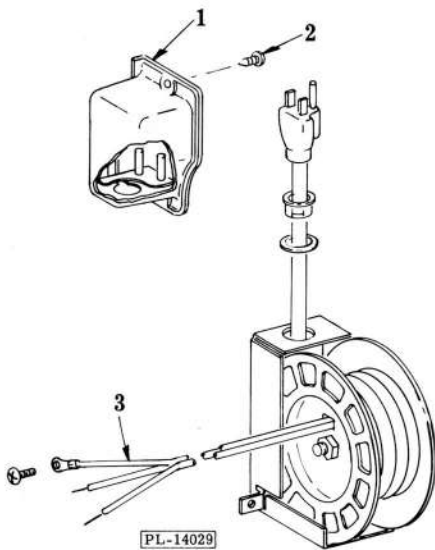

Fig. 46
2. Remove power cord housing (1, Fig. 46) and push through slot opening, provided in the housing.